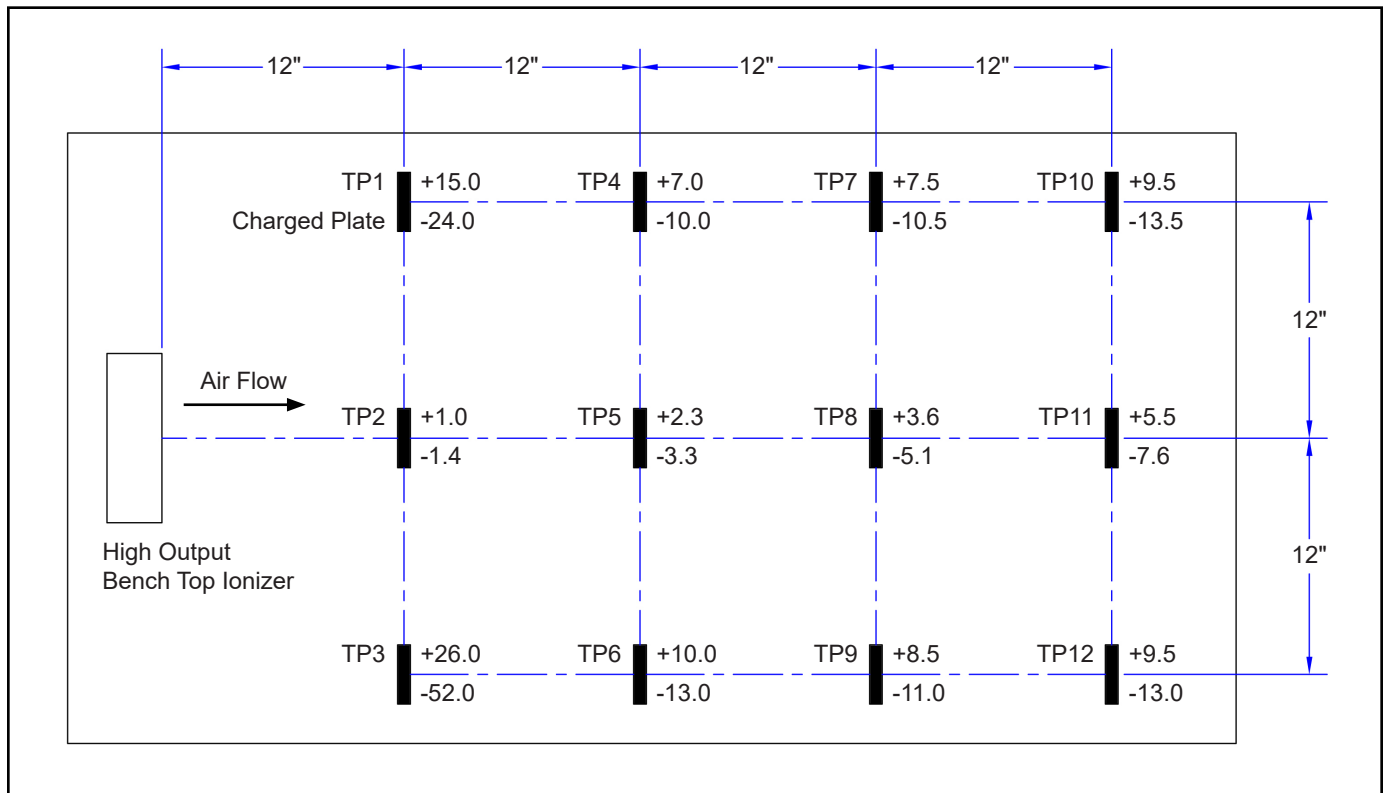

Figure 5. Neutralization (Discharge) Times at 120VAC / 220VAC, 60Hz input
5. Test the neutralization (discharge) time by applying a $\pm 1,000$ volt charge on the charged plate analyzer. The neutralization (discharge) time should be less than 2 seconds. See figures 5 and 6 for typical discharge times. The required limit per ANSI/ESD S20.20 is “user defined”.
The comparative efficiency of benchtop ionizers is determined by a standard test published by the ESD Association: ANSI/ESD STM 3.1. Typical positive and negative discharge times (1000V - 100V) measured using this standard are shown in Figures 5 and 6. The performance of the ionizer was measured with the unit positioned as shown, with the fan speed on high and without a filter.